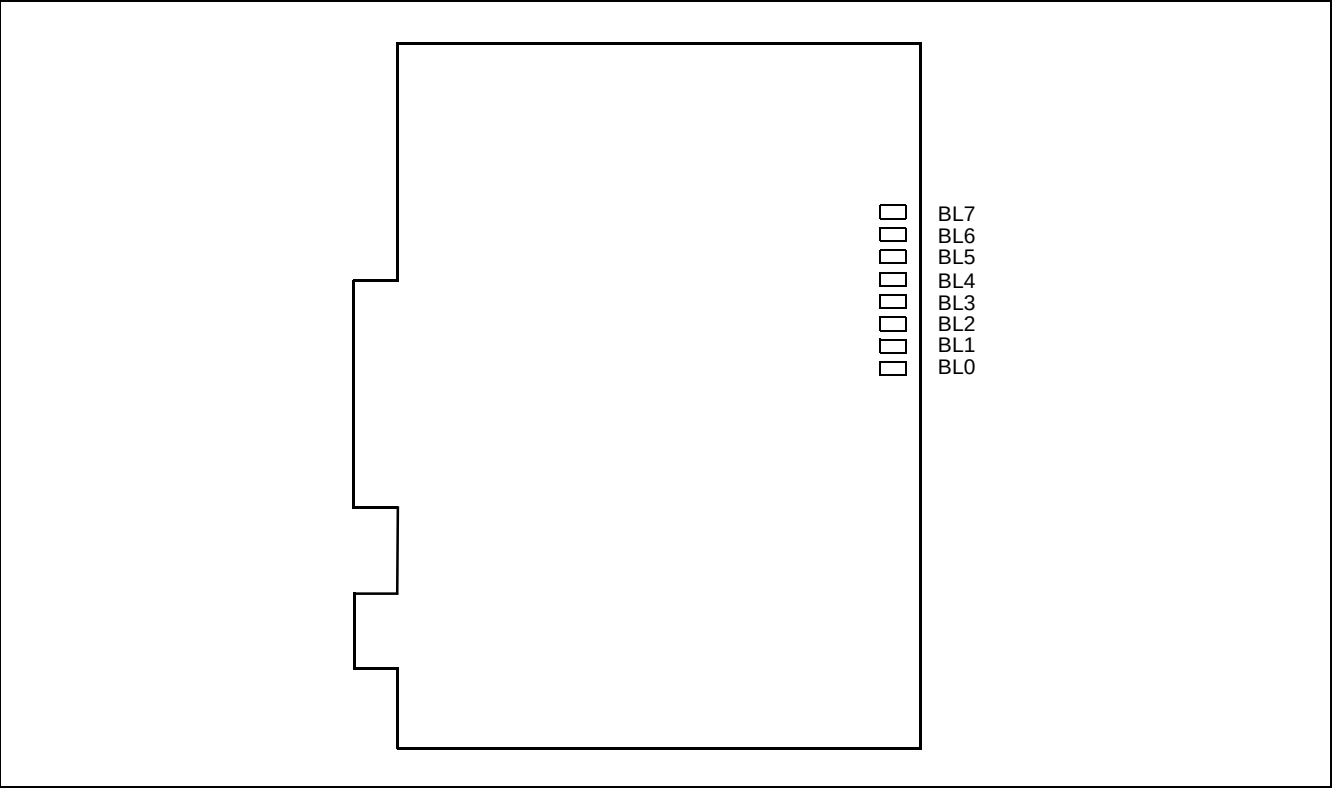

Figure 008-4 PN-8COT (COT) Card
(1) Locations of Lamps, Switches and Connectors (see Figure 008-4)